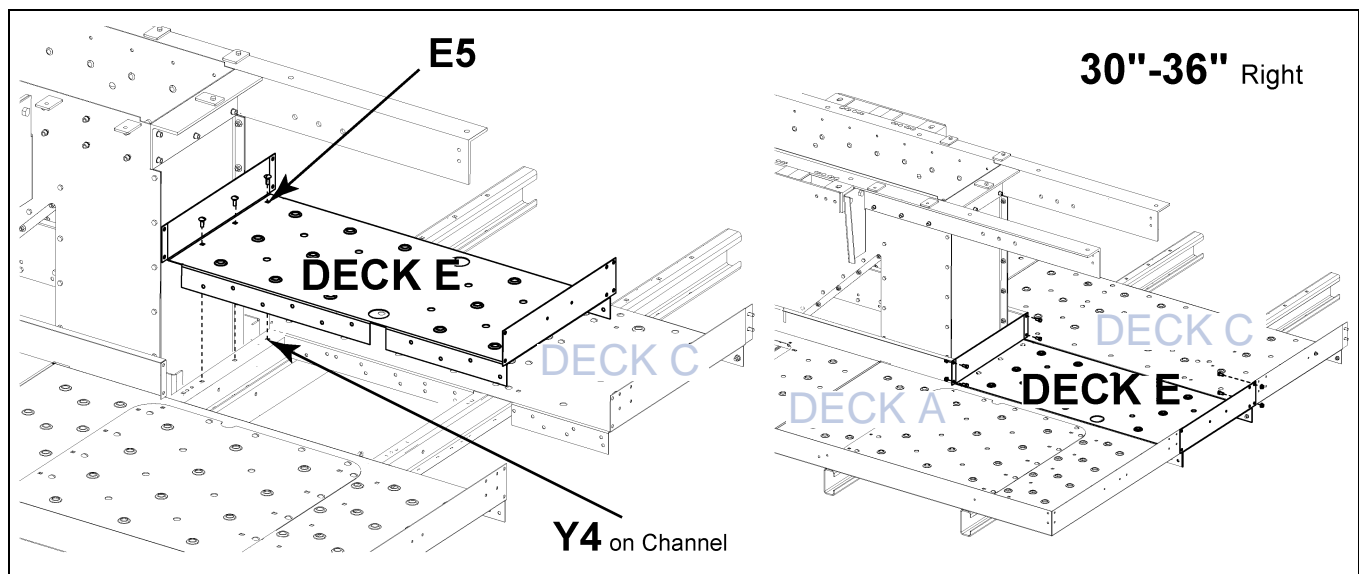

Figure 8O
1. Position Deck E between Deck A and Deck C. (See Figure 8O.)
4. Connect the Deck E kick plate flanges to toe boards and flanges of Deck A and Deck C using 3/8" x 3/4" bolts (S-7105) and 3/8" nuts (S-10028). (See Figure 8O.)